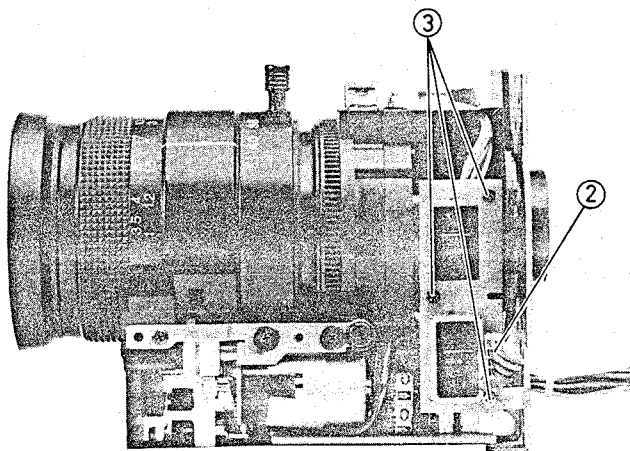

Fig. 2-130 Focus Switch Circuit Board Removal
Focus Switch Circuit Board Removal (Fig. 2-130)
2. Disconnect connector CN4. (See Fig. 2-130)
3. Remove three (3) screws holding the focus switch circuit board.
3. Remove the focus switch circuit board. (See Fig. 2-130)